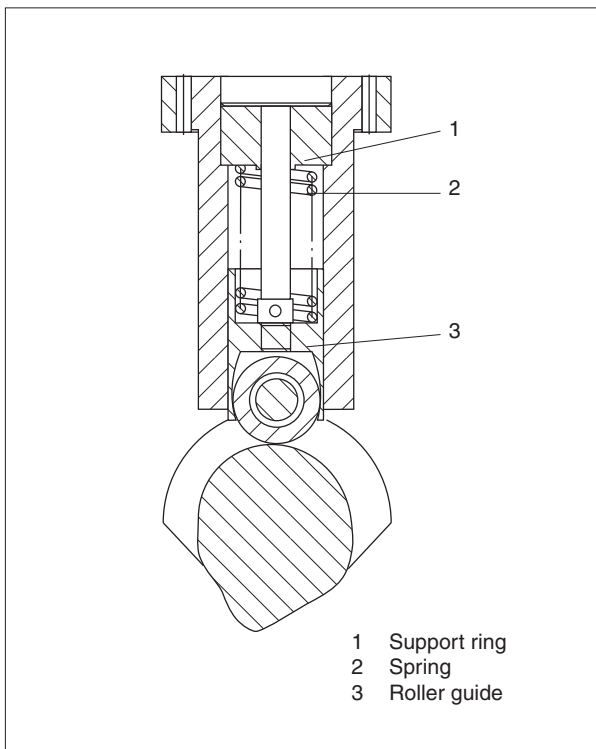

Fig 1.
1) Remove the support ring (1) and spring (2) and take up the roller guide (3), *see fig 1.*